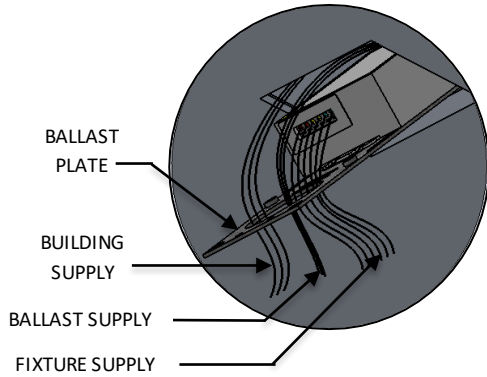

FIG. 21- DETAIL SHOWING BUILDING SUPPLY AND DRIVER WIRE
17. Slide DRIVER PLATE into the box with the DRIVER facing up.as you slide the plate in, make sure you pull the BUILDING SUPPLY connections through the large hole in the DRIVER PLATE as shown below in FIG.21 and other wires will already be through the center hole.